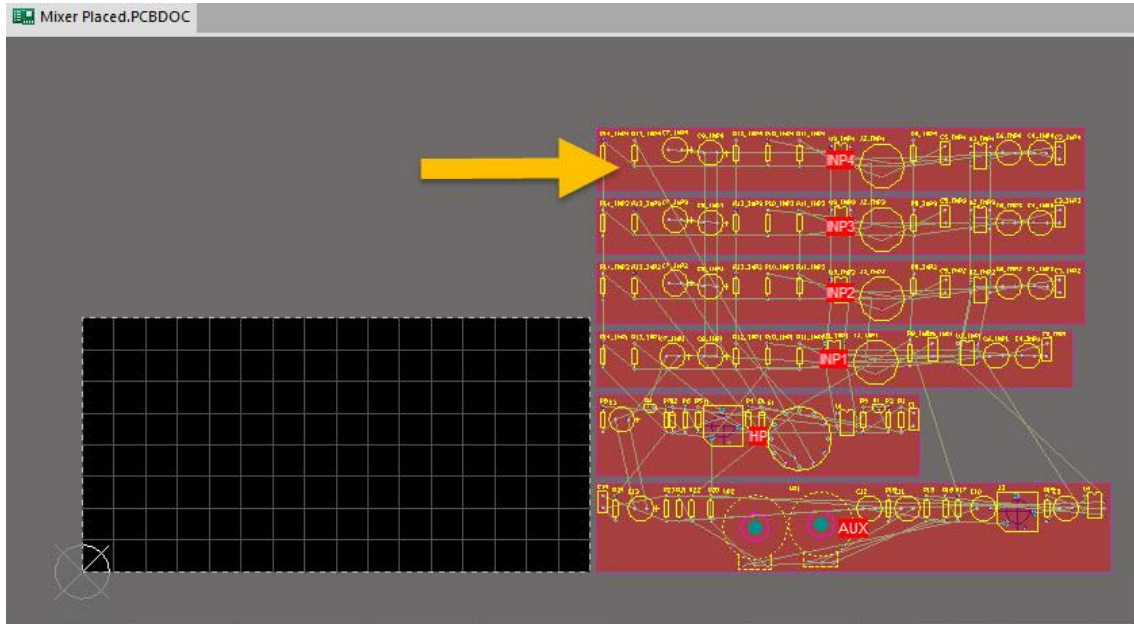

Figure 1. Room INP4
9. Open the `Mixer Placed.PcbDoc` document. You can see that the components are placed within their Rooms, as shown in Figure 1. A Room is created for each schematic document or channel in the design, depending on your project options.